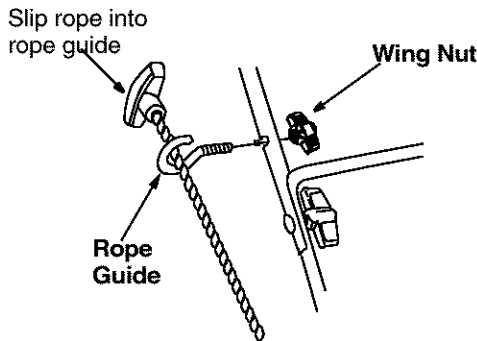

Figure 4
- With the spark plug wire disconnected and grounded, hold the blade control handle against the upper handle, and pull the starter rope out of the engine. Release the blade control handle. Slip the starter rope into the rope guide. Tighten the wing nut. See Figure 4.